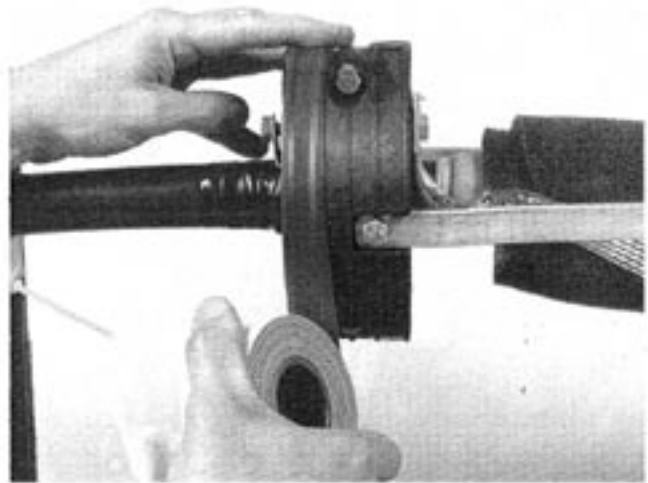

Figure 32 — LOCK-TAPE™ Sealant Application over End Plates
11.01 Apply one 1½" (3.81cm) LOCK-TAPE™ Sealant wrap over the End Plates, around the outside three rings. Stretch LOCK-TAPE™ Sealant strip as you apply it around the End Plates. Figure 32 See PLP® TIP 8.02.